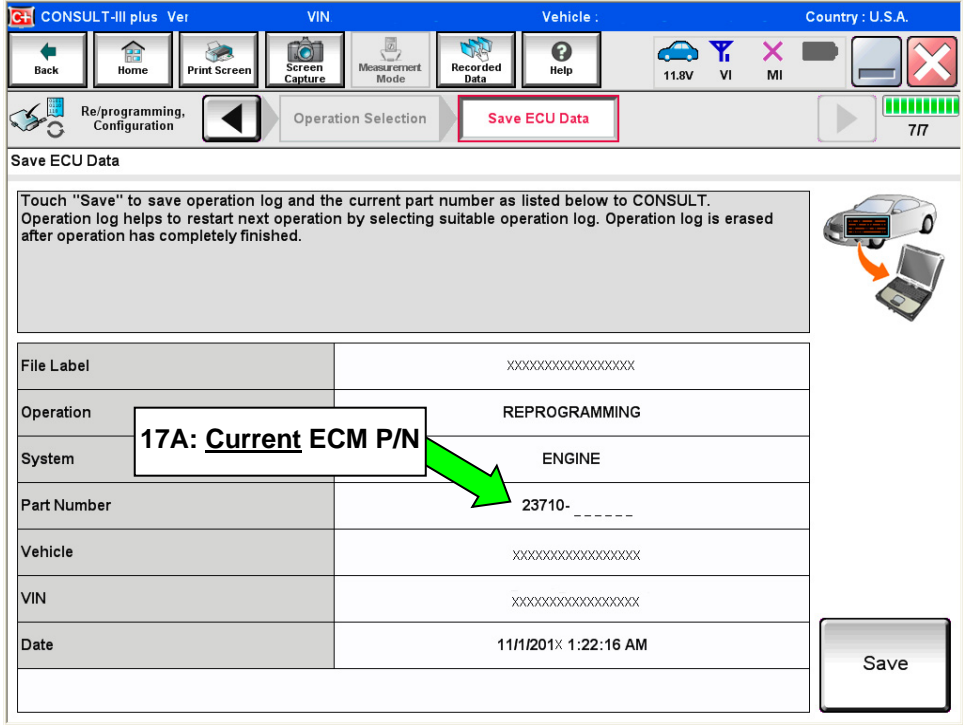

Figure 12
16. Follow the on-screen instructions and navigate the C-III plus to the screen shown in Figure 12 on the next page.
17. When you get to the screen shown in Figure 12, confirm this bulletin applies as follows.